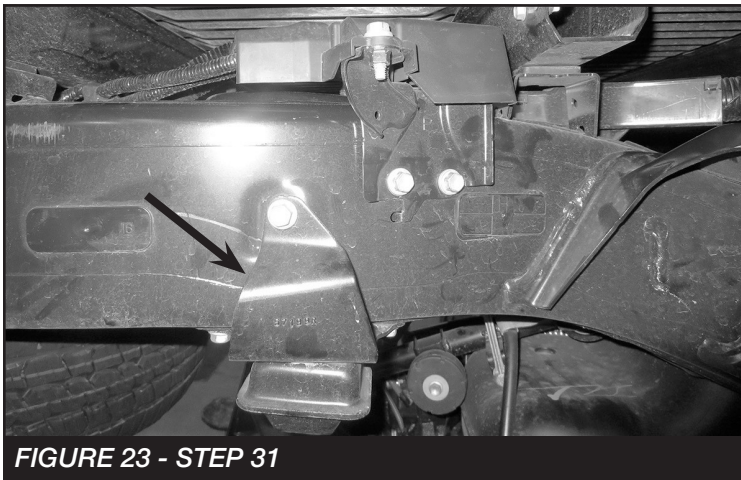

FIGURE 23 - STEP 31
31. Remove the factory rear bumpstops from the frame. Save hardware. **SEE FIGURE 23**